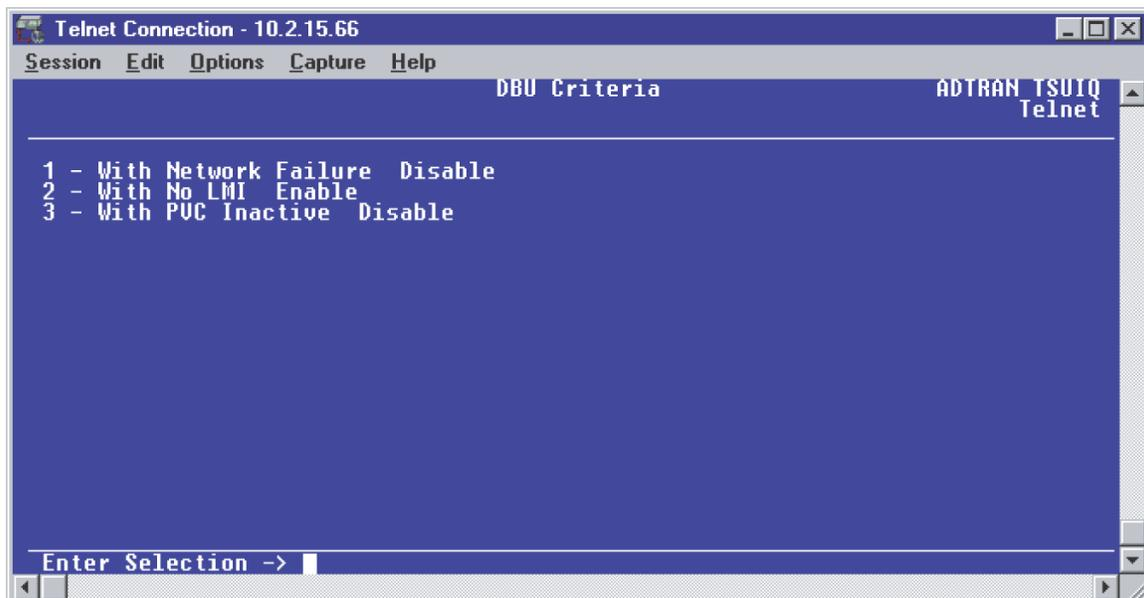

Figure 24. DBU Criteria Menu
1. Press **<ESCAPE>** once to get back to the **CONFIGURE DIAL BACKUP** screen shown in Figure 22. Select option 3, **DBU CRITERIA** and press **<ENTER>**. The menu screen shown in Figure 24 is displayed. The default values for the parameters on this screen are shown.